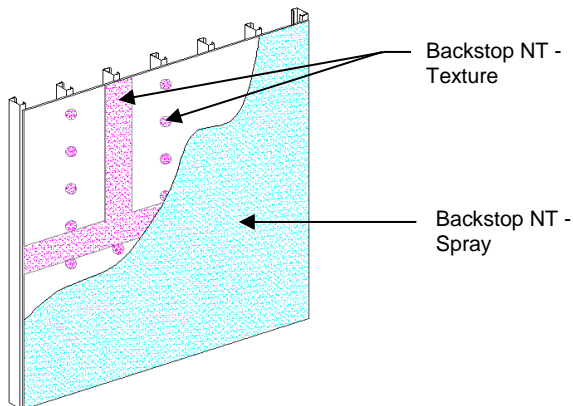

Figure 5
1) Backstop NT - Spray material should be applied in a uniform, continuous film at the recommended coverage rate free of voids and pinholes – Figure 5. **NOTE: Sheathing substrates with a surface texture or high porosity will require additional material.**